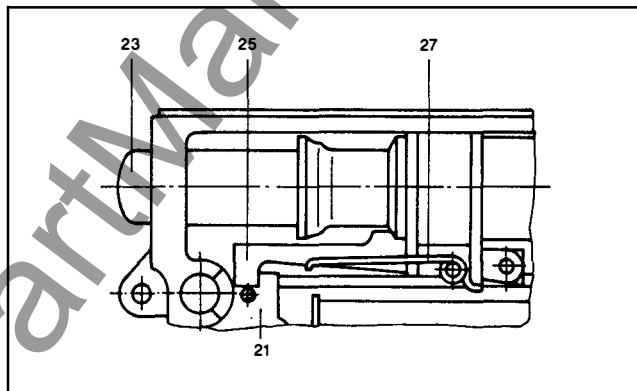

Figure 17a Latch Detail Shunt Release
The energy-storing mechanism consists of the striker pin, (23), and its operating spring, (31), which is mostly located inside the striker pin (23). When the spring is compressed, the striker pin is held by a latch, (25), whose sloping face is forced against the appropriately shaped striker pin, (23), by spring, (27). The other end of the latch, (25), is supported by a partly milled locking pin, (21) (fig. 17a), pivoted in the cover sheets of the magnet armature, (9). The armature, (9), is pivoted in front of the poles of the U-shaped magnet core, (1), and is pulled away from it by the tension spring, (11).